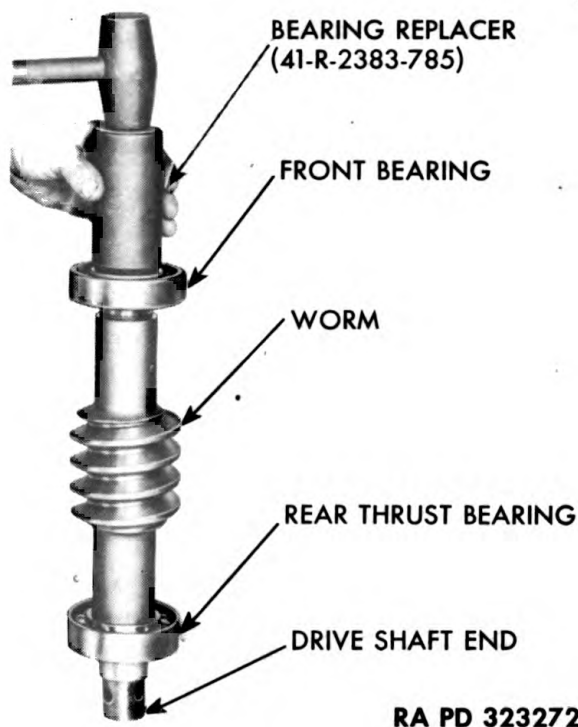

Figure 279 — Installing Bearing on Worm Shaft
b. **Assemble Worm Assembly** (fig. 279). With bearing replacer (41-R-2383-785) drive on or press rear thrust bearing onto rear end (drive end) of worm shaft against shoulder. **NOTE:** *Make sure thrust side of outer bearing race is toward drive shaft end. The thrust side of the outer bearing race is the thicker side.* Install front bearing in same manner, except that this bearing may face either way. Install brake disk key in worm.